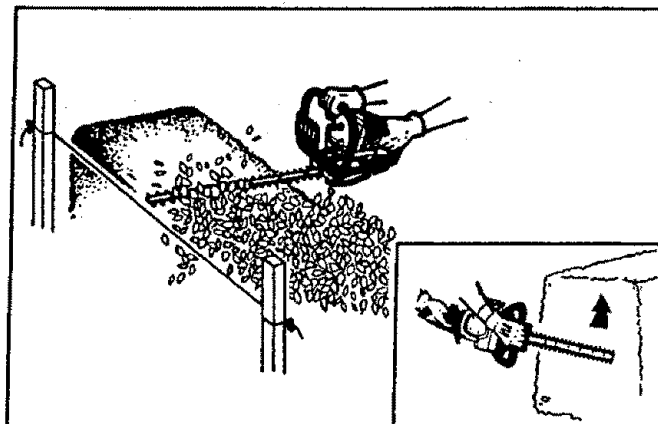

Figure 10
- **For precise, level cuts:** If a precisely level cut is desired, stretch a piece of string across the length of the hedge. Guide the cutting blades slowly across the top of the string. Figure 10.
- When trimming the sides of the hedge, begin at the bottom and cut upward, tapering the hedge inward at the top. Figure 10 (inset). Cutting in this method will leave the body of the hedge narrower at the top. This shape will expose more of the hedge, resulting in more uniform growth.